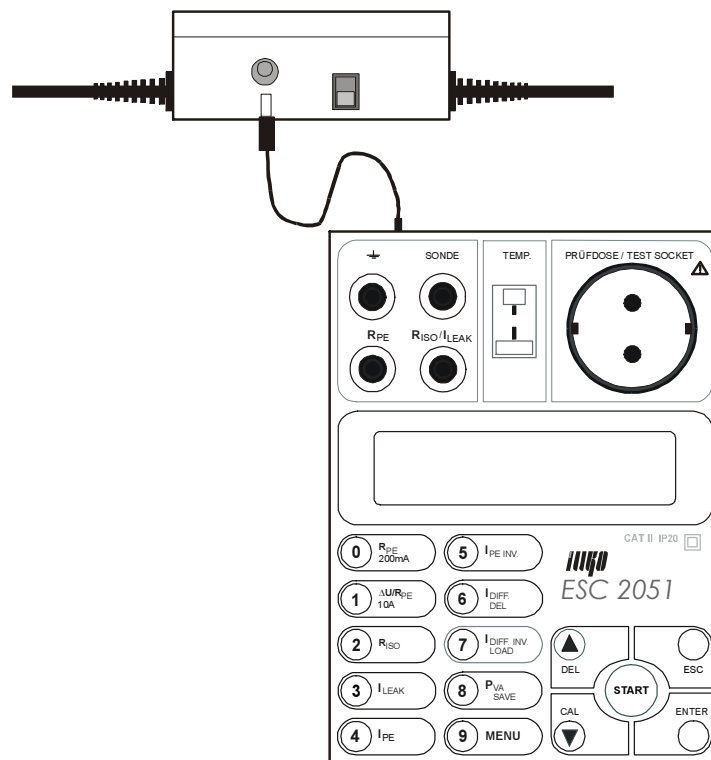

Fig. 15
- Connect three-phase adapter to connector **2** by means of adapter's connection cable jack (Fig. 15).